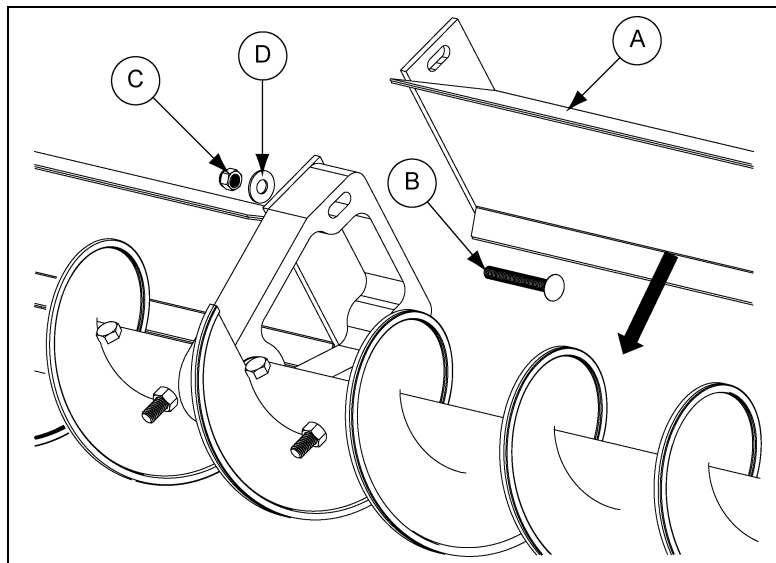

Figure 4AJ
Step 12: Fit second shield section. (See Figure 4AJ.)